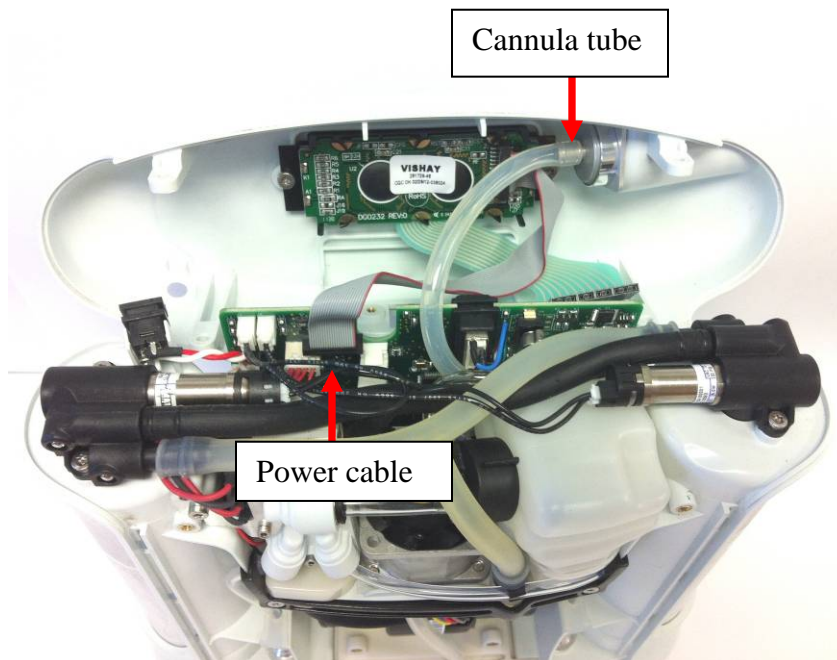

Figure 8: Remove cannula tube and power cable
8. Gently unplug the cannula tube from the user interface panel and the LCD cable from the motherboard (Figure 8) and set the user interface panel aside.